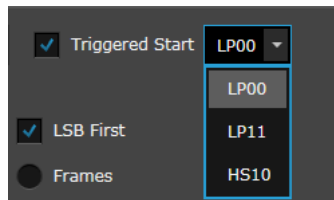

Figure 20 Activating Triggered Start on the user interface
- select the Low Power state from the drop-down options that must be used in the initial looped block. See Figure 20.